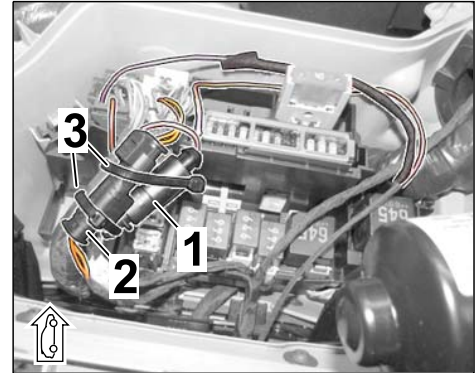

Figure 46
- 3.6 Secure plug connections (CAN lines/terminal 87A) to existing lines/components in the fuse box (E-box) in the cowl panel with tie-wraps without tensile stress and so that no chafing occurs (⇒ *Figure 46*).